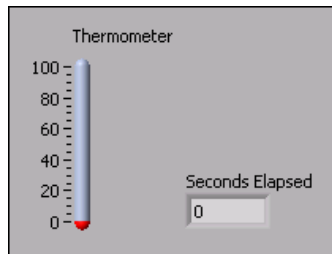

Figure 4.11
1. Open a blank VI and build the front panel shown in Figure 4.11.